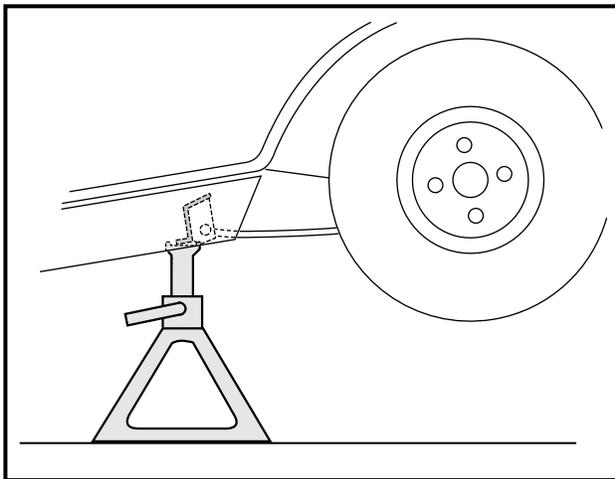

Figure 16-8 Support Vehicle on Jackstands
2. Place floor jack under transaxle and raise rear of vehicle (**Figure 16-8, Page 16-7**) then place jackstands under frame cross-member between the spring mount and the side stringer, just forward of each rear wheel. Lower the vehicle to let the jackstands support the vehicle.